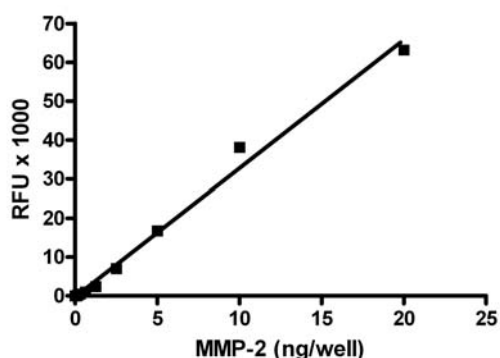

Figure 2. Sensitivity of the SensoLyte® Plus 520 MMP-2 assay.
- Determine the slope of the linear portion of the data plot. Obtain the reaction velocity (V) in RFU/min or RFU/sec.
- Plot data as RFU versus concentration of MMP (Figure 2).